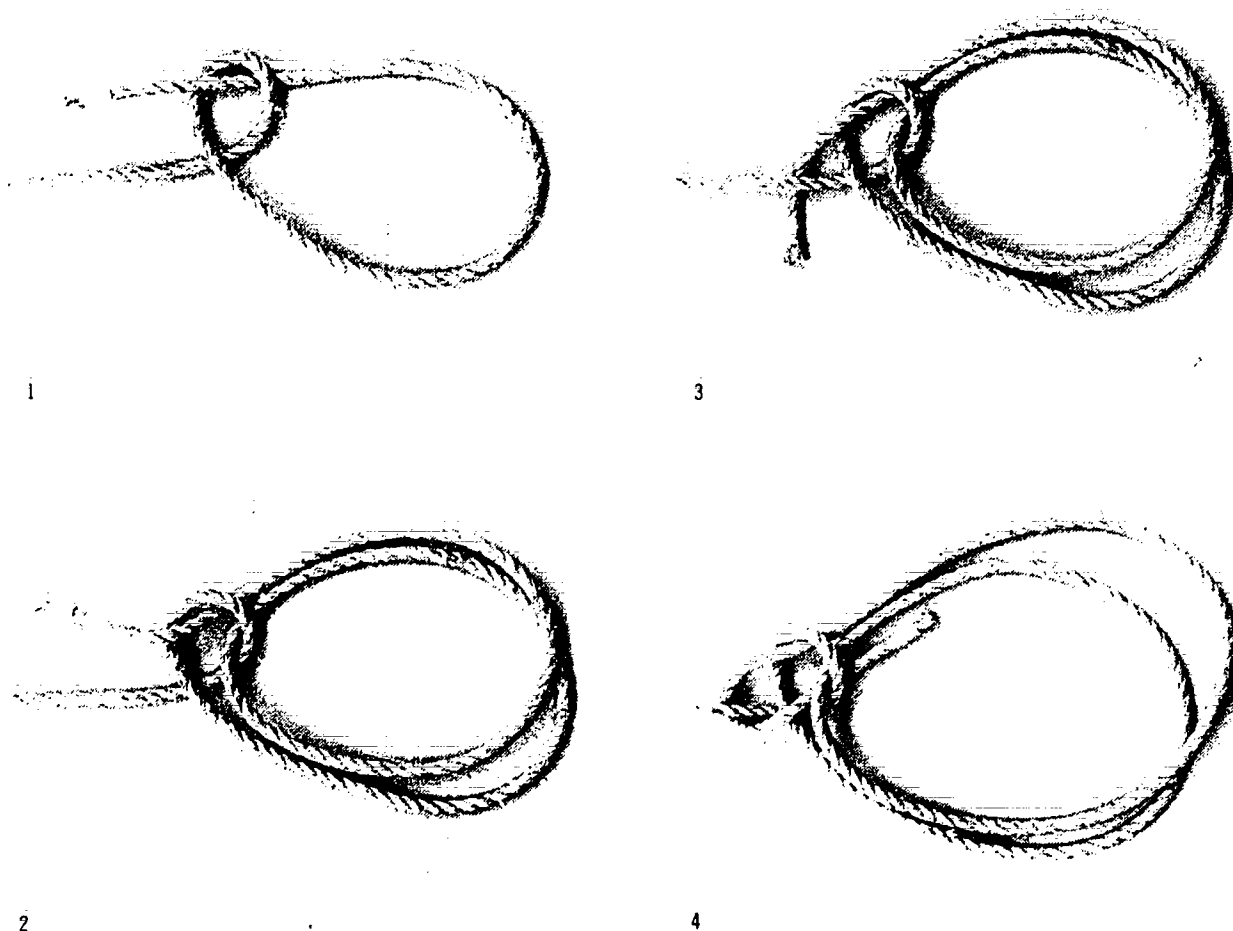

Figure 7-11. Tying a Double Bowline Knot
2. The **double bowline knot** (or **French bowline**) provides a secure, two-loop sling that can serve as a seat for an operator (by passing a small, notched board through the loops) or as spreaders to sling a load. Figure 7-11 illustrates the steps in tying a double bowline.